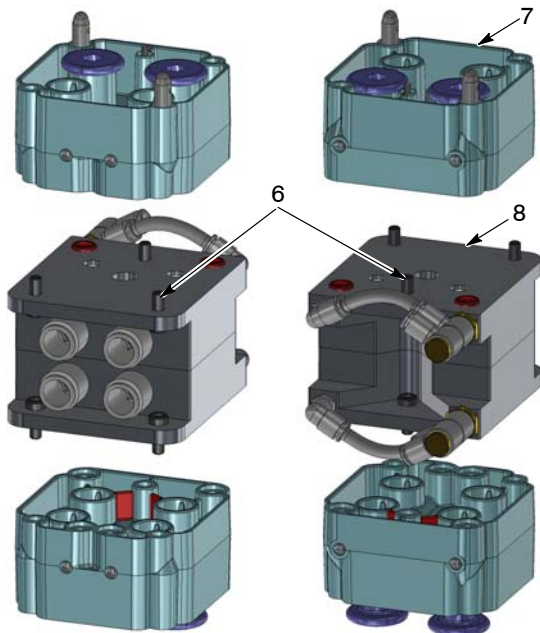

Figure 4 Separating Siphon Block Components
3. See Figure 4. Remove three cap screws (6) from each middle siphon block (8) to remove the middle siphon blocks from the pinch valve blocks (7).
- See Figure 4. Using a 4-mm Allen wrench, insert a total of six cap screws (6) into each middle siphon block (8) to connect the middle blocks to the pinch valve blocks (7).